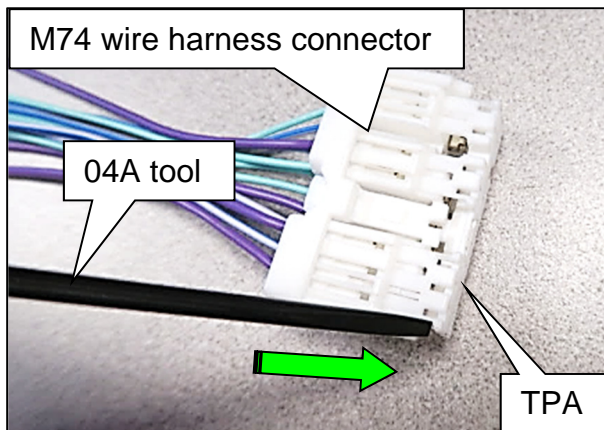

Figure 27
24. Using the 04A tool of the Terminal Release Tool, special tool J-48817-1, disengage the TPA from the M74 wire harness connector, as shown in Figure 27.